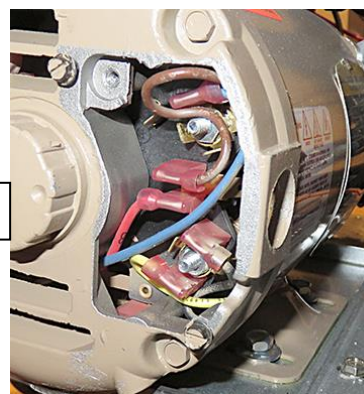

Figure 15
17. Use a screwdriver or pliers to remove the conduit nut and disconnect the conduit from the motor (see Figure 15).